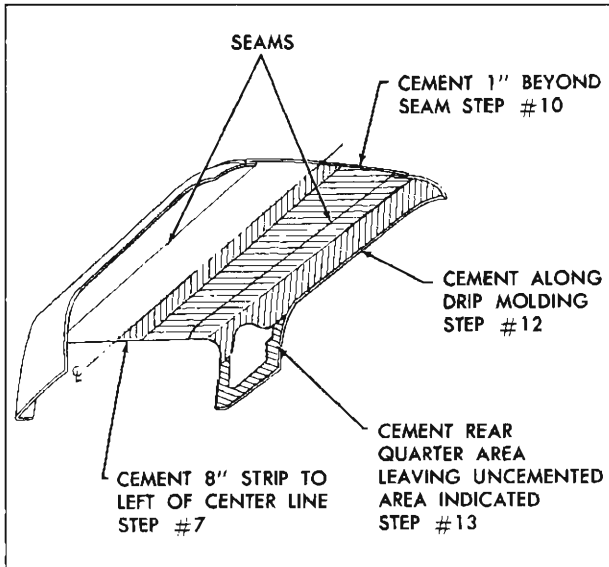

Fig. 105—Cementing Fabric Cover
7. Apply approximately an 8" wide strip of nitrile non-staining vinyl trim adhesive such as 3M Vinyl Trim Adhesive or Permalastic Vinyl Trim Adhesive or equivalent along exposed inner layer of fabric cover adjacent to center line. (fig. 105).
cover to extend approximately 1" beyond dielectric seam. Apply cement to corresponding area of body (fig. 105).
12. Fold over fabric cover and apply cement to remaining portion of fabric cover and roof panel and drip molding. Cement cover to roof panel and drip molding (fig 105).
13. Cement perimeter of fabric cover in rear quarter area. Be certain fabric cover is cemented at emblem or plate assembly attaching locations. This type of cement application will permit easier fitting of cover in rear quarter area. (fig. 105).